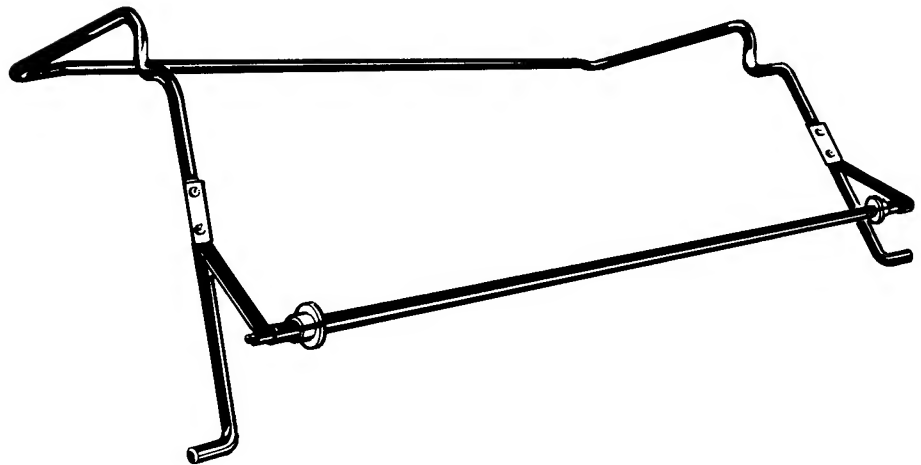

Figure 6A. Dancer Bar Installation
6. Attach the **DANCER BAR** to the **ROLL PAPER SUPPORT** (see Figure 6A).